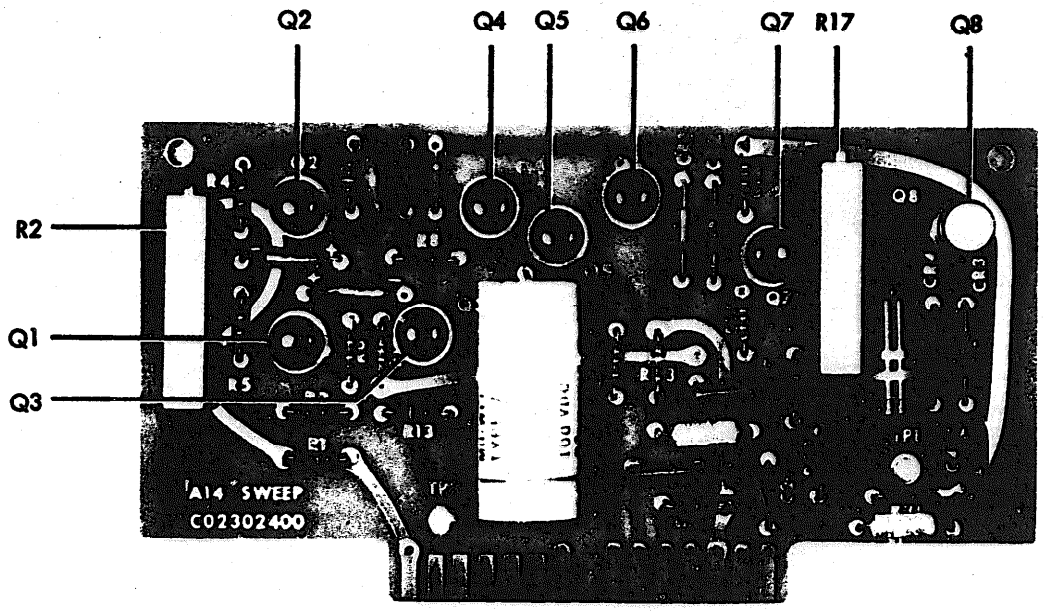

Figure 4-10. Module A14, Sweep C02302400
(1) Adjust L9 for maximum indication.
11. Sweep, module A14 (Figure 4-10)